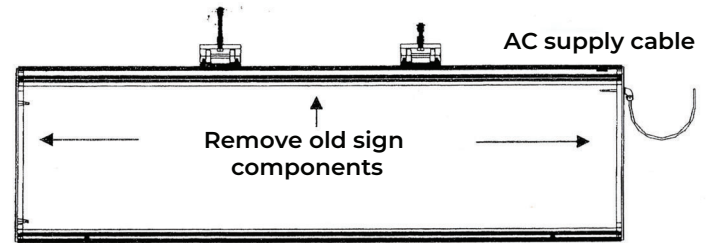
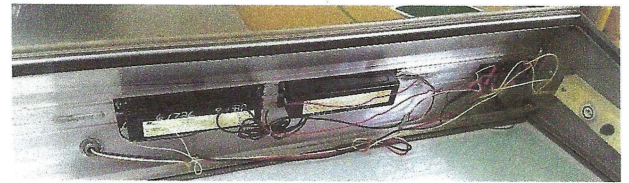

FIGURE 1
FIGURE 2
- 2) Prepare sign interior for retrofit upgrade by removing all existing internal fluorescent components, ballasts and reflectors. Socket assemblies will not be used with the illumEcon Retrofit unit. (FIG 1, FIG 2)